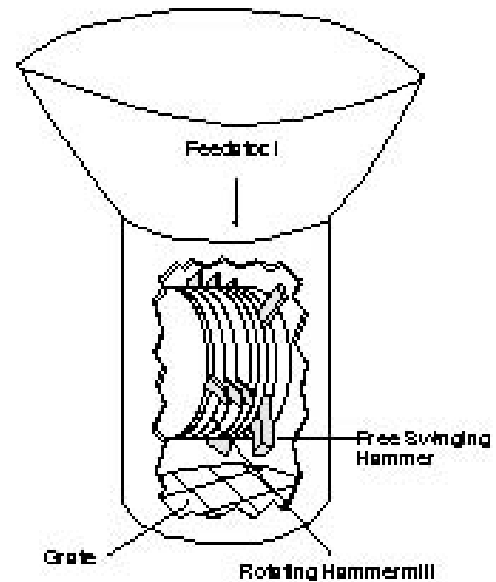

Figure 4.
**Hammermills** consist of rotating sets of swinging steel hammers through which the waste is fed (Figure 4).